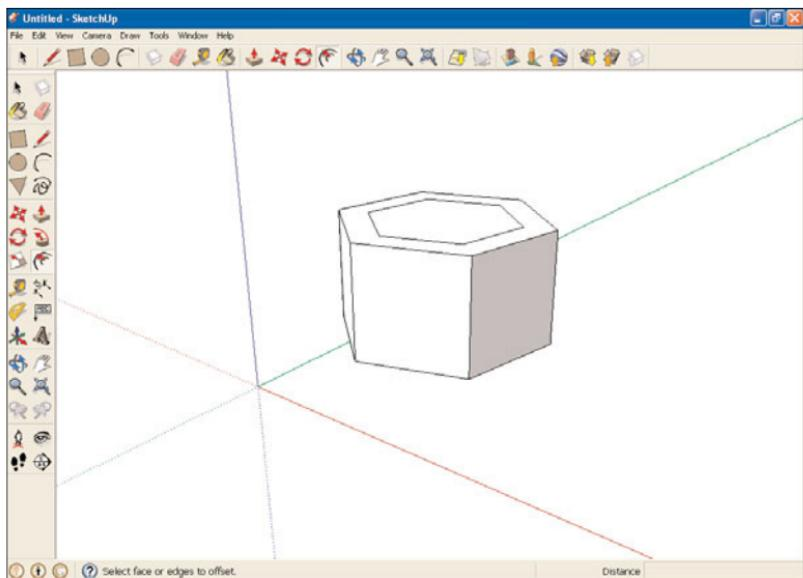

FIGURE 9.5 An offset on a surface.
10. Move the mouse to make an offset appear. The Offset tool draws an offset following the edges of the current surface, as you can see in Figure 9.5.